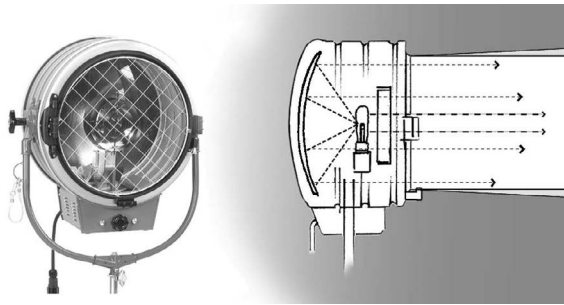

FIGURE 8.26
The beam projector (BP) has been around since before movies were invented. In 2000, Mole-Richardson redesigned the BP in large sizes, both tungsten and HMI, for use in motion picture work, and they have proved to be a valuable tool (Figure 8.26).